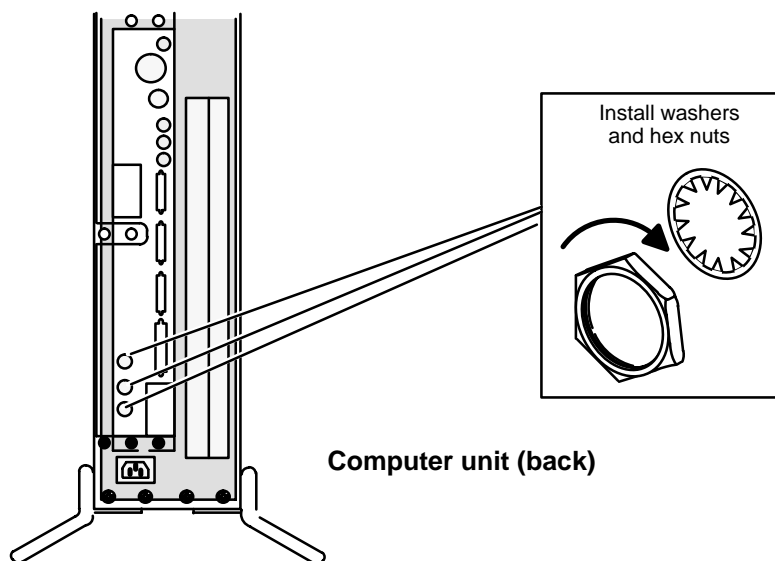

Figure 9-26 Securing Graphics Monitor Connectors to the Computer Bulkhead
5. If you are installing a graphics controller board, install the hexagonal retaining nuts that secure the monitor connectors to the computer unit bulkhead, as shown in Figure 9-26. Use an adjustable wrench to secure the nuts to the bulkhead.